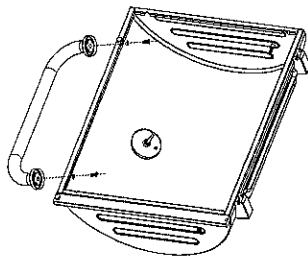

Fig. 18B
Refer to Fig.18B and attach the Lid handle to the Lid with (2) M6x15 bolts as shown.